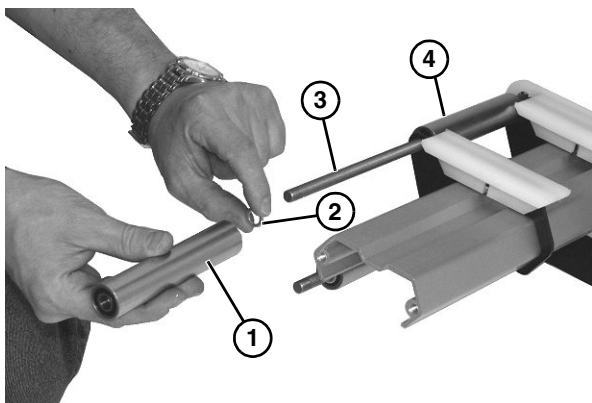

Figure 51
9. Remove roller assembly (**Figure 51, item 1**) and washer (**Figure 51, item 2**) from axle shaft (**Figure 51, item 3**).
10. Remove remaining roller assembly components (**Figure 51, item 4**) on opposite side.